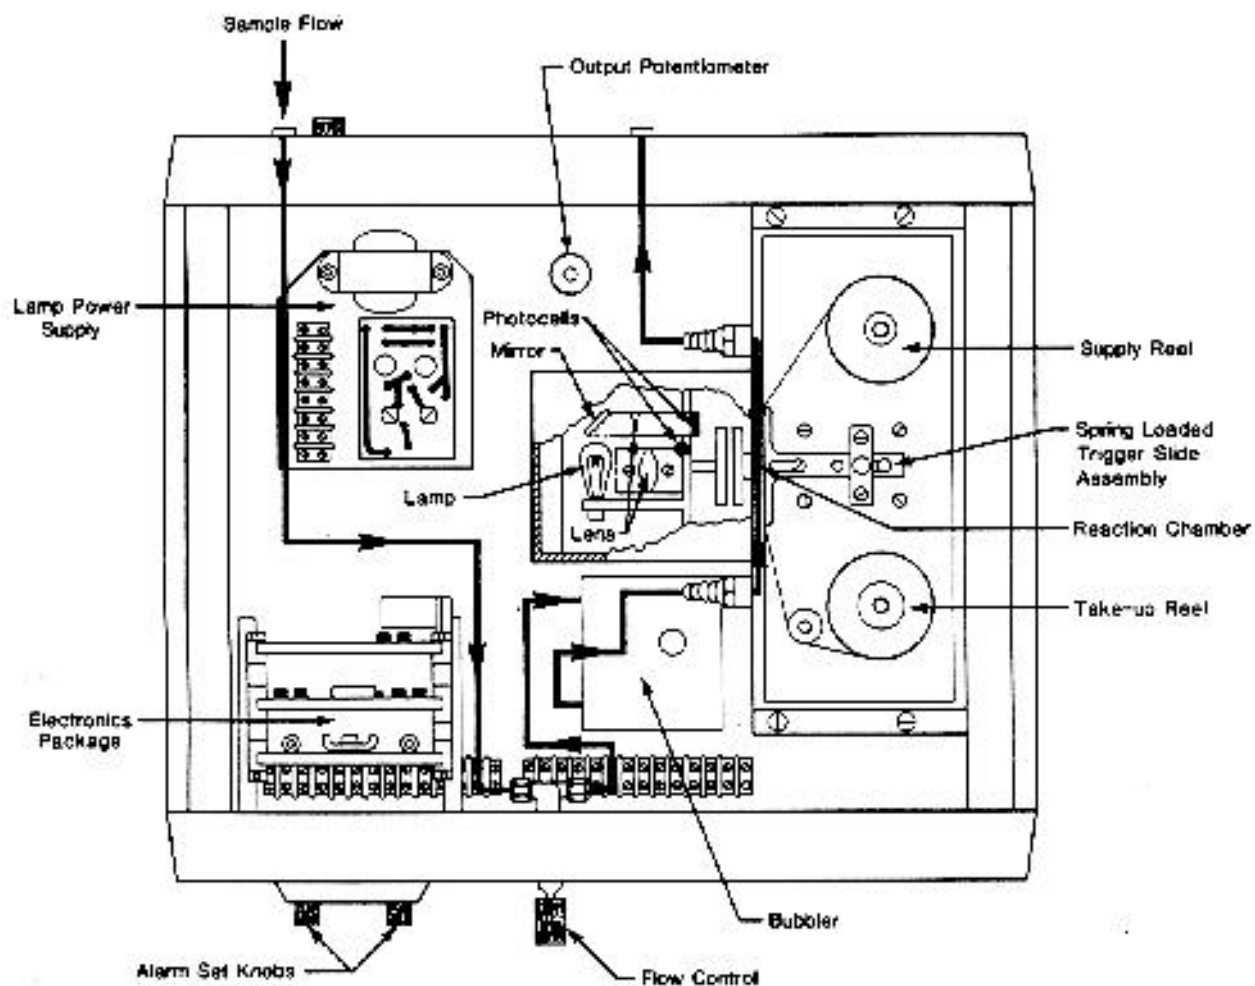

Figure O.1.0.1
O.1.0.2 PHYSICAL DESCRIPTION- The Houston-Atlas 825R is housed in a table top cabinet approximately 20" wide x 10" high x 19" deep with a hinged top which lifts to access the tape transport, optical assembly, electronics, and bubbler (see Figure O.1.0.1). The only external component required is a sample pump.
- b. Using VOM on 1K to 5K ohm range, measure resistance between red and brown test jacks on right side of front panel (see Figure O.1.0.1). Record this value as reference photocell resistance.